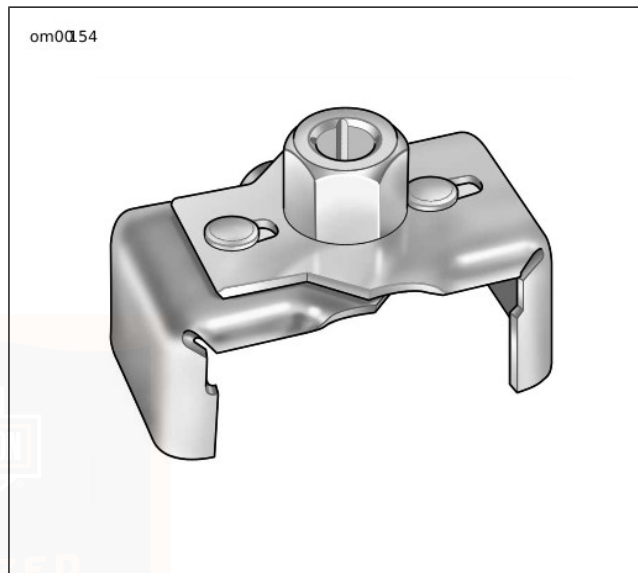

Figure 42. Oil Filter Wrench (Part No. HD-42311)
5. See Figure 42. Remove the oil filter using the OIL FILTER WRENCH (Part No. HD-42311 or Part No. HD-44062). The tool allows easy removal of the oil filter without risk of damage to the crankshaft position sensor or cable.